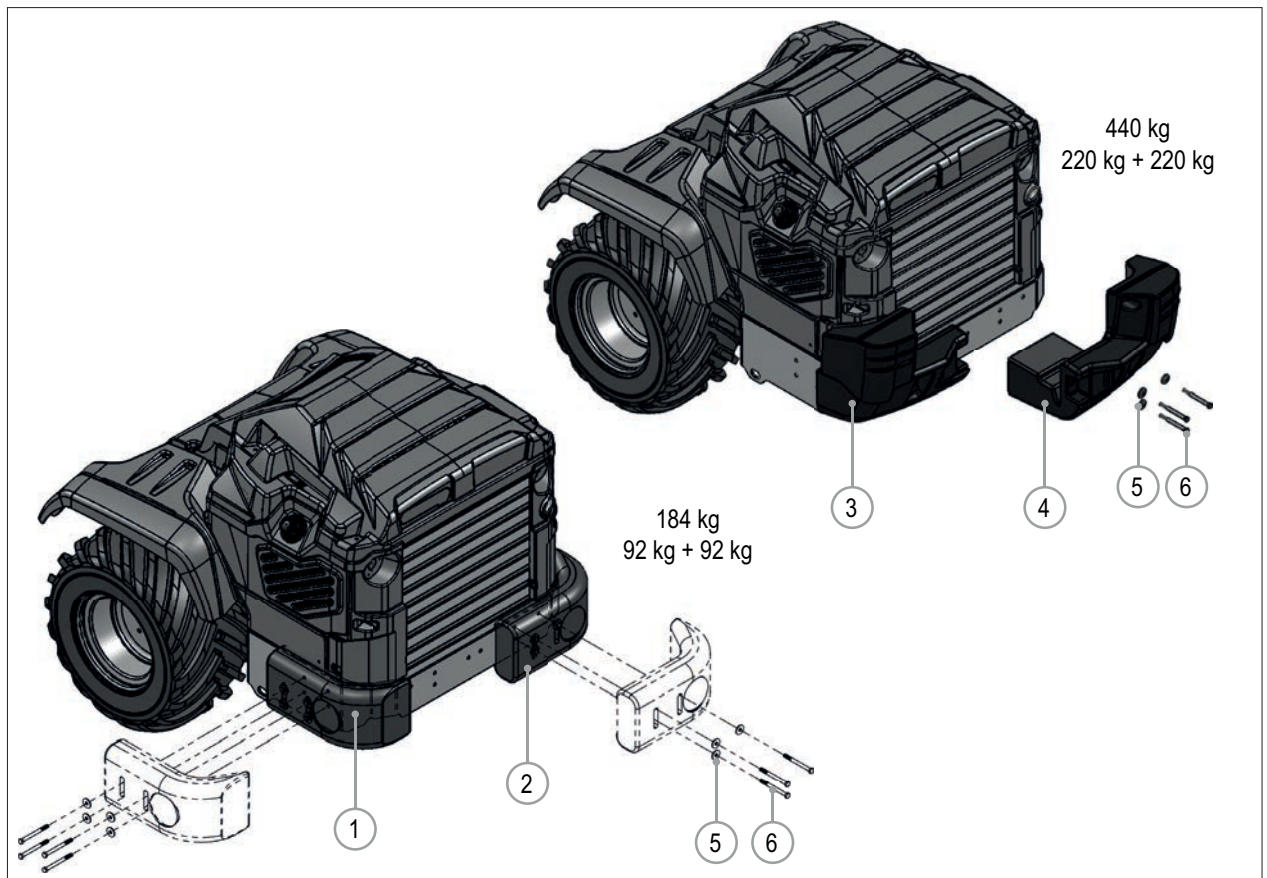

FIG. 66
- The 184 kg backweights kit can be installed at rear (FIG. 66 - Ref. 1) or at the side (FIG. 66 - Ref. 2) of the bumper machine.
- The 440 kg backweights kit can be installed only at rear of the bumper machine (FIG. 66 - Ref. 3 - 4).
- 3) Secure the backweight to the bumper using the bolts and washers (FIG. 66 - Ref. 5 and Ref. 6).